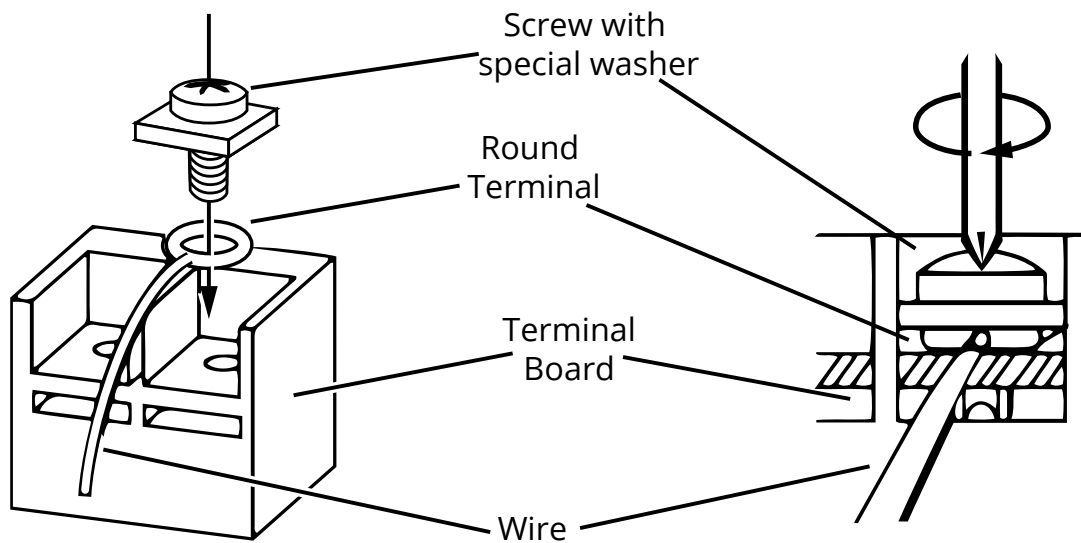

Fig. 2.29
For braided wires (Refer to Fig. 2.28 B & Fig. 2.29):
4. Locate the round terminal conduit. Use a screwdriver to replace it and tighten up the terminal screw, as shown in **Fig. 2.29**.